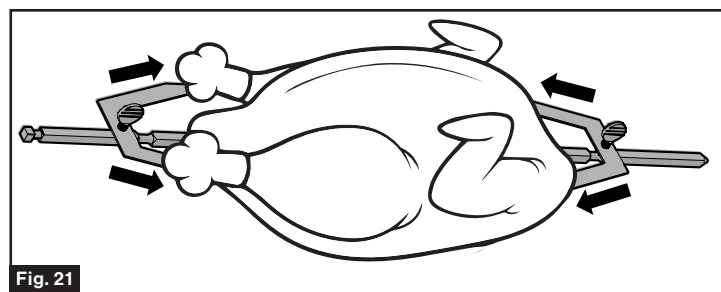

Fig. 21
1. Simply push the meat through the point end of the skewer and hold into place with the prong/fork on each side. (Fig 21)